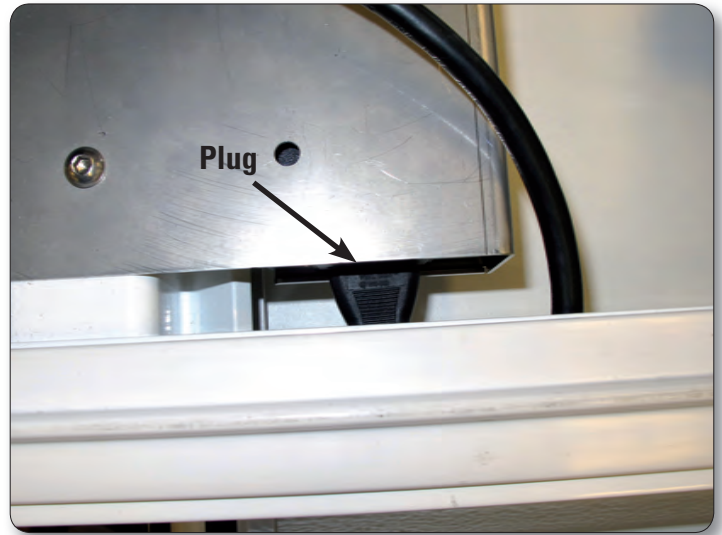

Figure 12
2. Plug one branch of the new “Y” power cord (Page 3, I) into the power supply located toward the rear of the carriage (Figure 12). Route the power cord as shown in Figure 11. It is also permissible to have the power cord extend directly out the side of the carriage rather than over the top of the carriage.